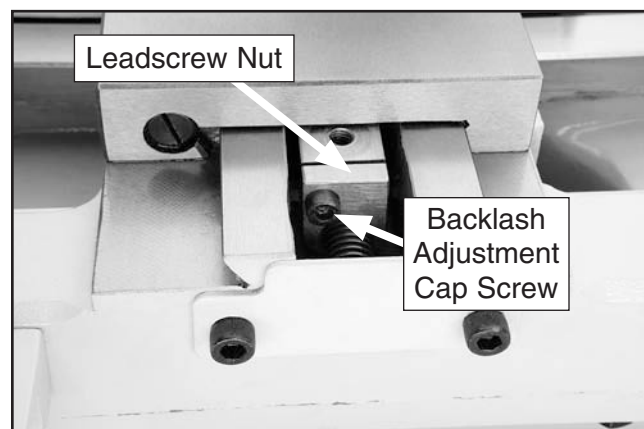

Figure 100. Leadscrew nut.
3. Rotate the cross slide handle clockwise to feed the leadscrew nut out from under the cross slide, as shown in **Figure 100**.
4. Tighten the backlash adjustment cap screw shown in **Figure 100** in small increments.